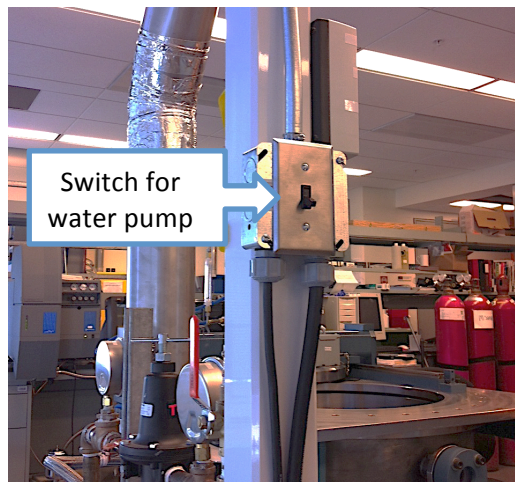

Figure 16: Water Pump Switch for Droplet Generator
8. Turn on Water Pump switch located next to the main compressed air line. See figure 16.
15. Shut off Water Pump Switch for the droplet generator. (See figure 16)